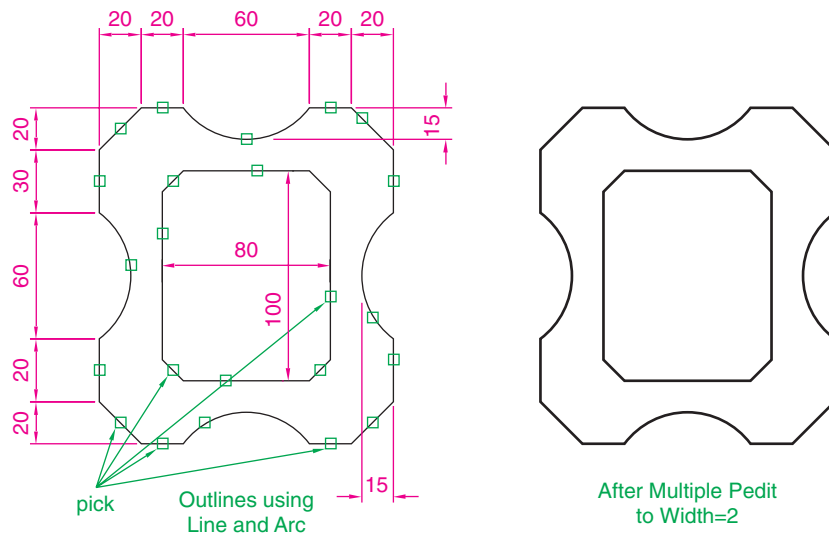

Fig. 3.44 Example – Multiple Polyline Edit
Example – Multiple Polyline Edit (Fig. 3.44)
1. With the **Polyline** tool construct the left-hand outlines of Fig. 3.44.
Continue selecting lines and arcs as shown by the pick boxes of the left-hand drawing of Fig. 3.44 until the command line shows:
The result is shown in the right-hand drawing of Fig. 3.44.